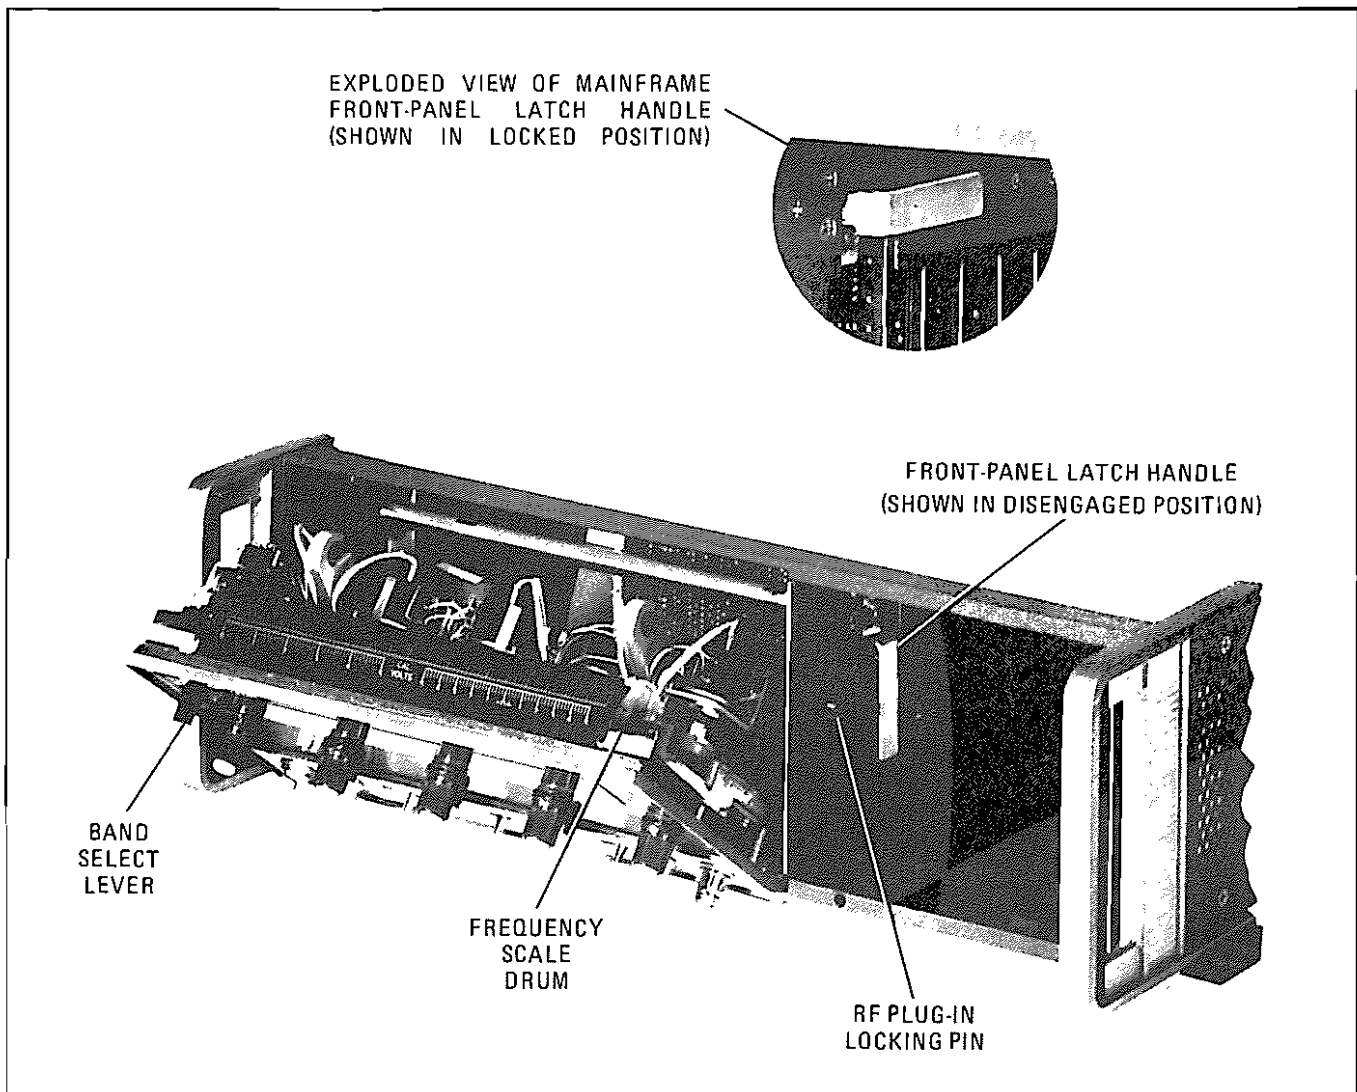

Figure 2-1. Location of Mainframe Parts Pertinent to Frequency Scale and RF Plug-in Installation
- a. Disengage mainframe front-panel latch handle, shown in Figure 2-1, by pushing downward on handle while pushing inward lightly on top of front panel.
- c. Depress mainframe front-panel BAND select lever, shown in Figure 2-1, to rotate frequency scale drum until desired scale position is accessible.
- f. Return front panel to upright (closed) position, and, while pushing inward lightly on top of front panel, re-engage front-panel latch handle by pushing it upward to lock positions as shown in Figure 2-1, exploded view.
- b. When exposed portion of latch handle is in a position perpendicular to RF Plug-in front panel, it is disengaged from locking pin (Figure 2-1) and RF Plug-in may be removed by pulling forward on latch handle.